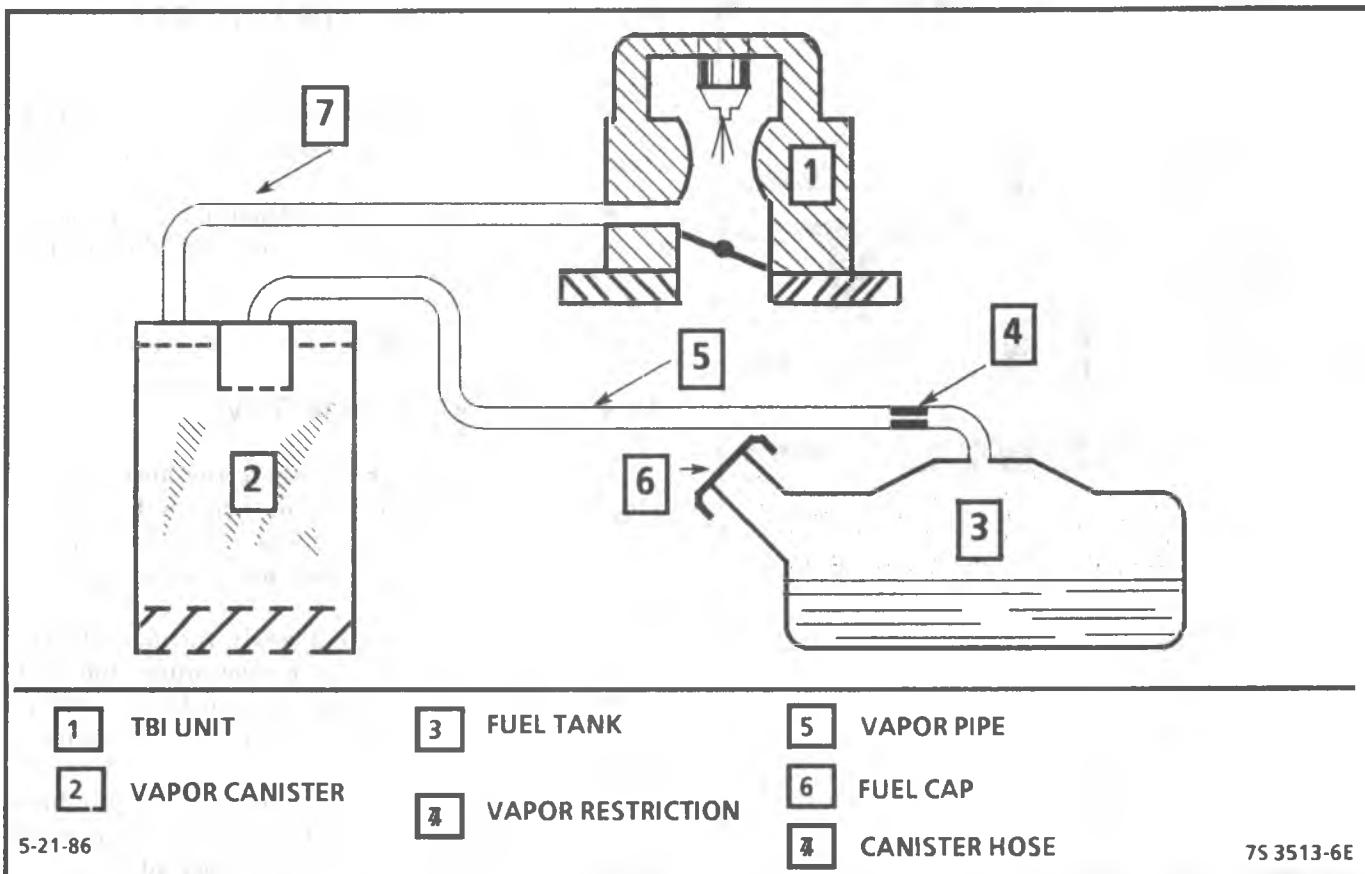

Figure 5-5 Evaporative Emissions Control System Schematic - 2.5L & 4.3L (ST)
2.5L, 2.8L & 4.3L (ST) (Figure 5-5)